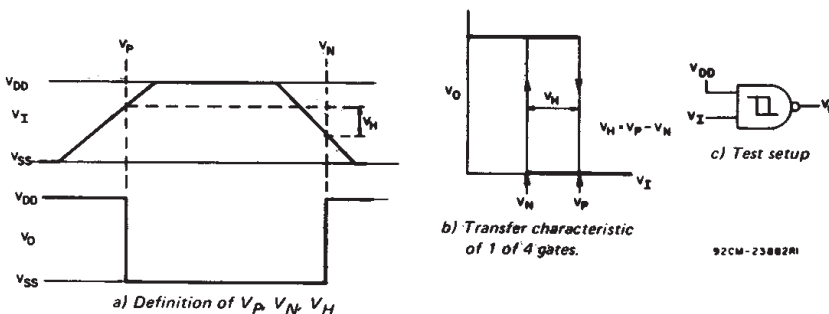

Fig. 2 – Hysteresis definition, characteristic, and test setup.
■ CD4093B consists of four Schmitt-trigger circuits. Each circuit functions as a two-input NAND gate with Schmitt-trigger action on both inputs. The gate switches at different points for positive- and negative-going signals. The difference between the positive voltage ( $V_P$ ) and the negative voltage ( $V_N$ ) is defined as hysteresis voltage ( $V_H$ ) (see Fig. 2).